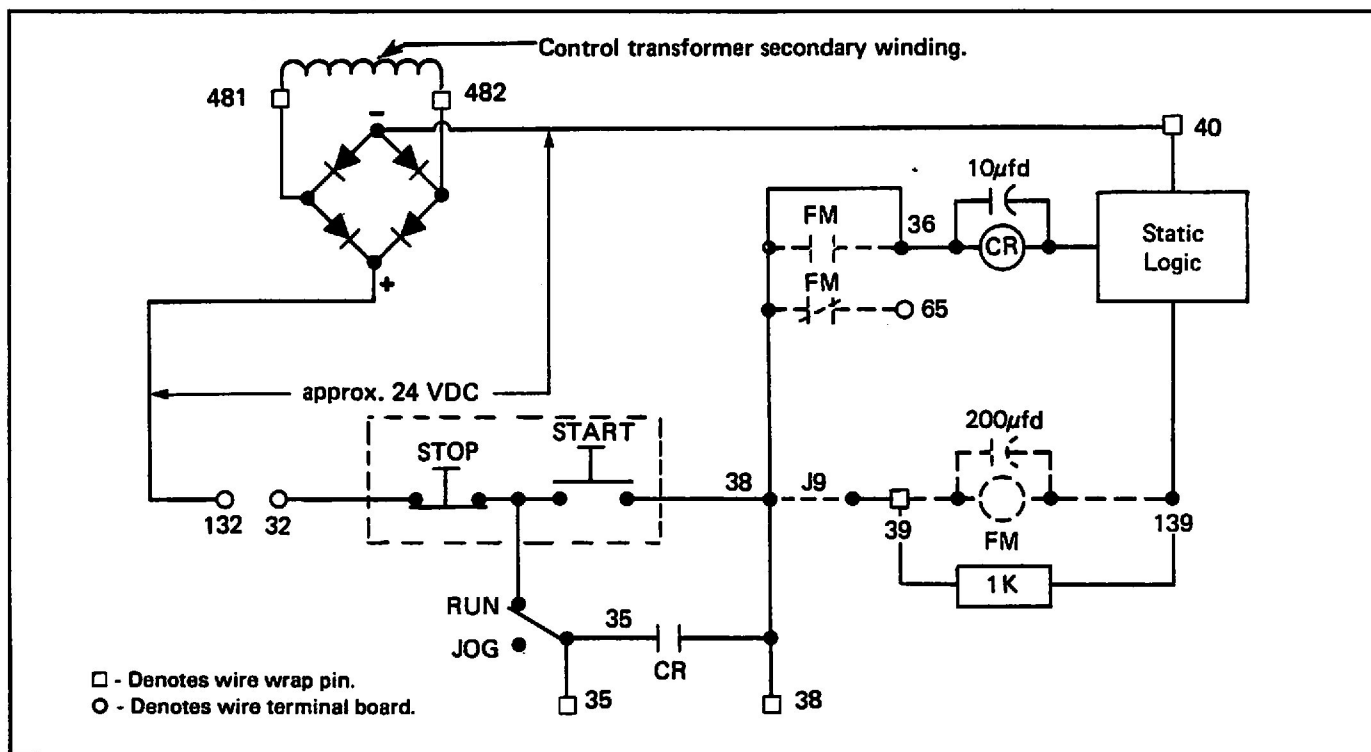

Figure 6.1 — Unidirectional Control Circuit (simplified)
- Figure 6.1 which is a simplified control circuit schematic for a unidirectional (forward only) controller.